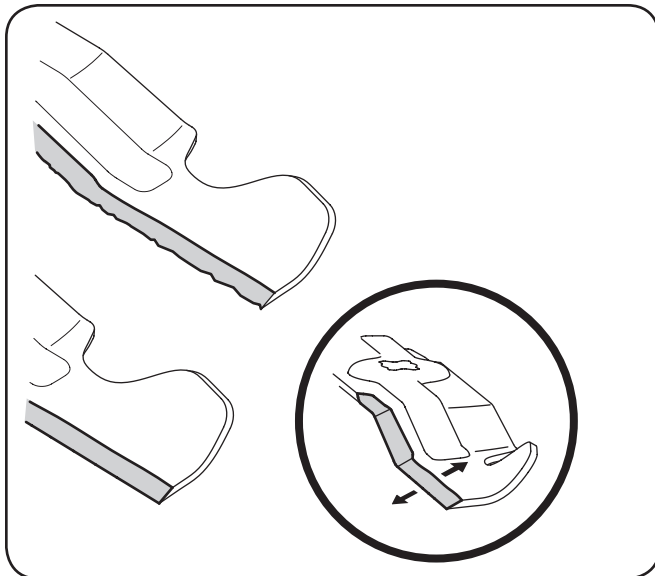

Figure 7-6
- To properly sharpen the cutting blades, remove equal amounts of metal from both ends of the blades along the cutting edges, parallel to the trailing edge, at a 25° to 30° angle. Always grind each cutting blade edge equally to maintain proper blade balance. See Fig. 7-6.